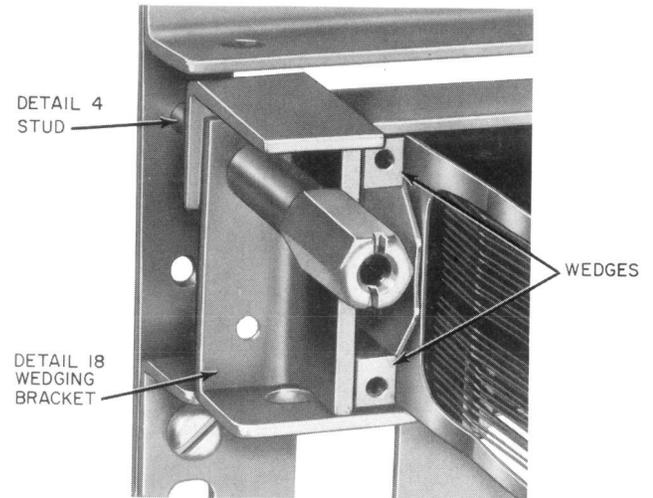

Fig. 19—Detail 18 Wedging Support on Detail 4 Stud
- (a) Place detail 18 wedging bracket on detail 4 stud, and then fasten detail 2 spacer nut as shown in Fig. 19.
- (b) Use the detail 5 wedge inserter to force details 20 through 33 wedges of sufficient thickness to compress the relay clamping spring between the spring and the detail 18 wedging bracket on the top and bottom. (See Fig. 19.)